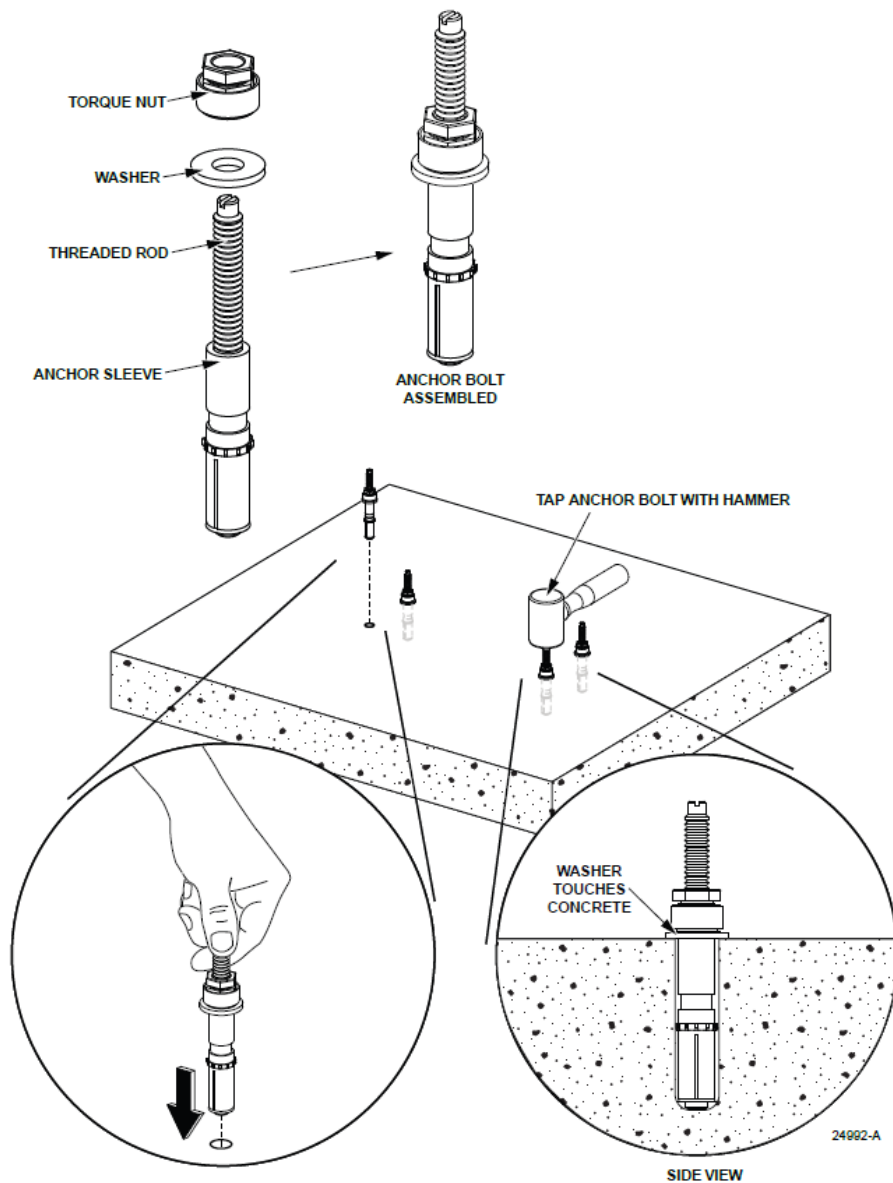

Figure 9. Installing Washer and Torque Nut on Threaded Rod
4. Thread the washer and torque nuts onto the threaded rod, as shown in Figure 9. Insert the anchor bolt assembly into the hole. The washer should touch the top of the anchor sleeve. Tap the anchor bolt assembly with a hammer until the washer touches the concrete.